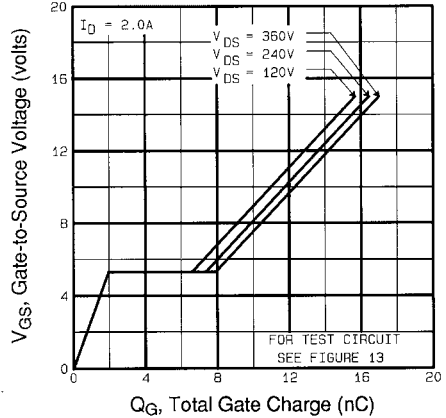

Fig 6. Typical Gate Charge Vs. Gate-to-Source Voltage
| Q_{gd} | Gate-to-Drain ("Miller") Charge | — | — | 8.9 | | $V_{GS}=10V$ See Fig. 6 and 13 ④ |